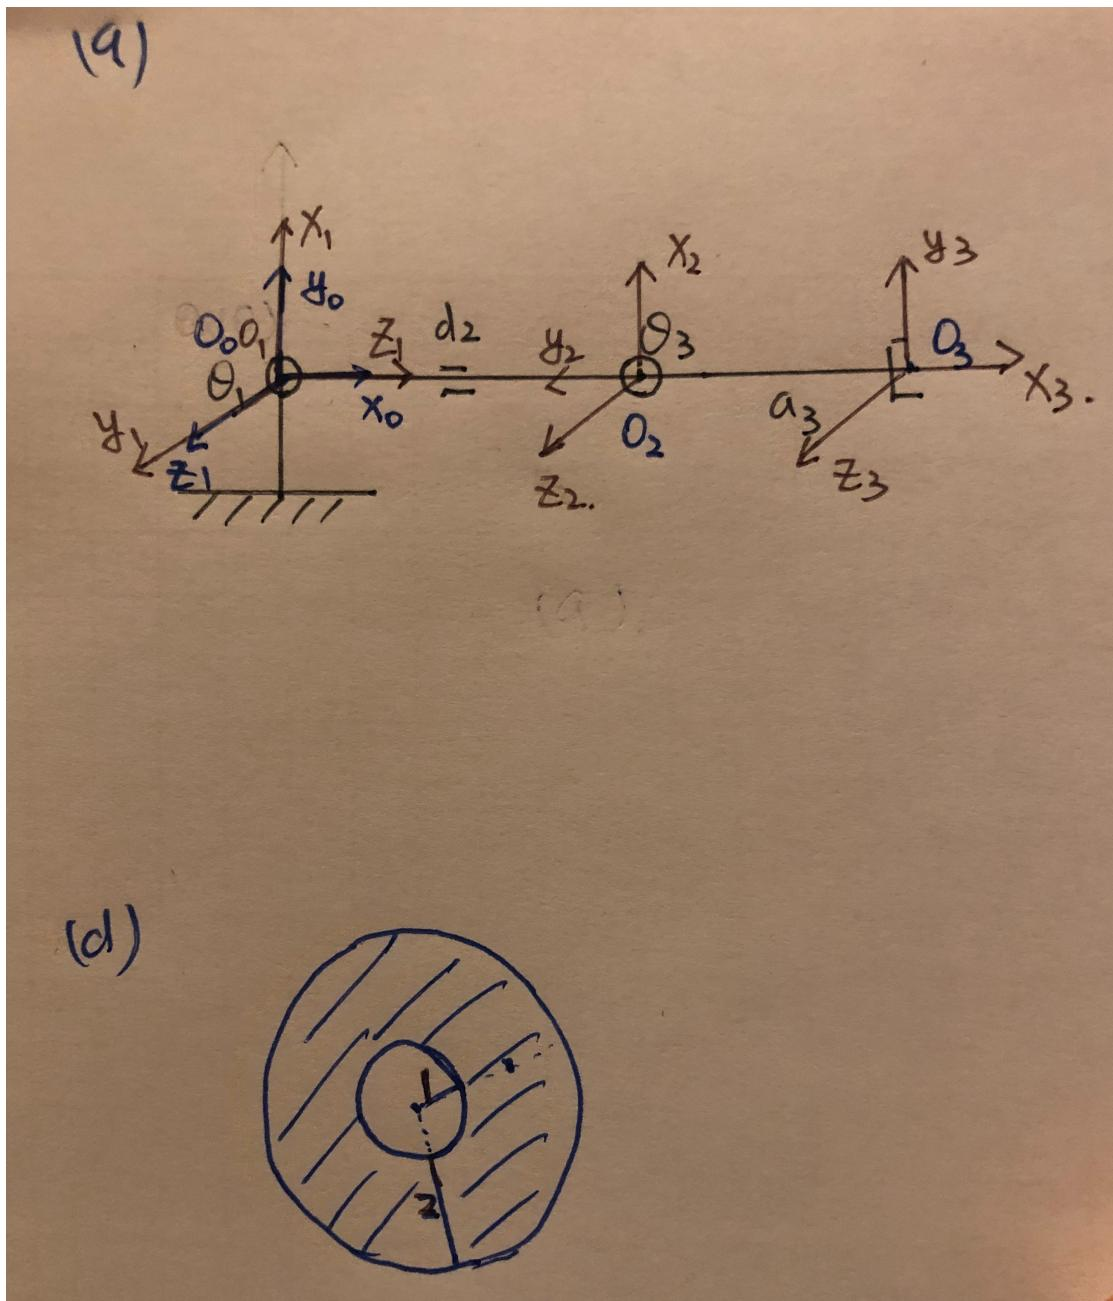

Figure 1: The simplified diagram of the manipulator and the sketch of the workspace..
The simplified diagram of the manipulator and coordinate frames is shown in Fig. 1.
- (d) The workspace of the arm is like a donut, shown in Fig. 1. The inner radius of the ring is 1 and the outer radius is 3.